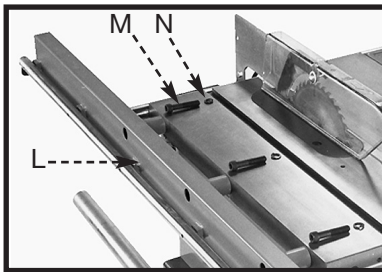
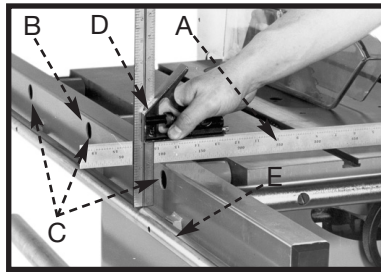

Fig. 27
Fig. 28
1. Attach the upper rail assembly (L) Fig. 27 to the side of the table where the extension wing was previously mounted, using the three 2-1/2" socket head screws (M) and lockwashers (N) through the holes (C) Fig. 28.
2. Use a square (D) Fig. 28 with a straight edge (A) on the machine table with the other end extending over the top of the upper rail assembly (B). The top of the upper rail assembly (B) must be slightly below the table surface. Check the square (A) to confirm that the rail (E) is the same distance below the table surface at the front and the rear. To adjust, loosen the three screws located in holes (C) and adjust the upper guide rail assembly (B). After adjustment, tighten screws (C).